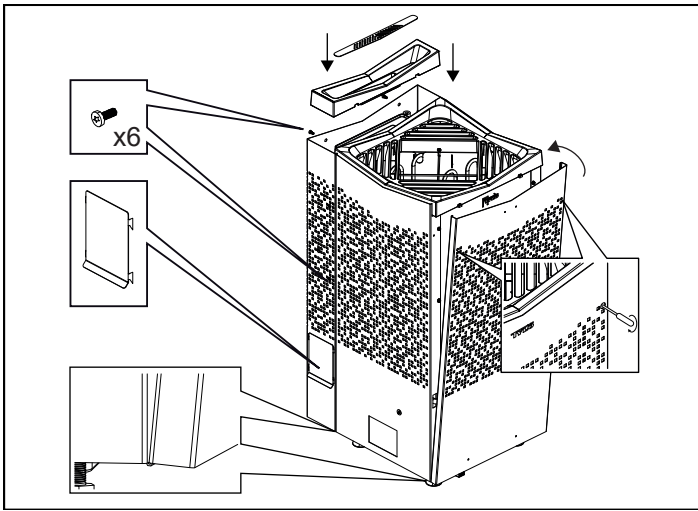

Fig 15: Mount the front and back cover, the cover to the water reservoir and the emptying hatch
11. Put back the front and back cover and tighten the screws, see Figure 15.